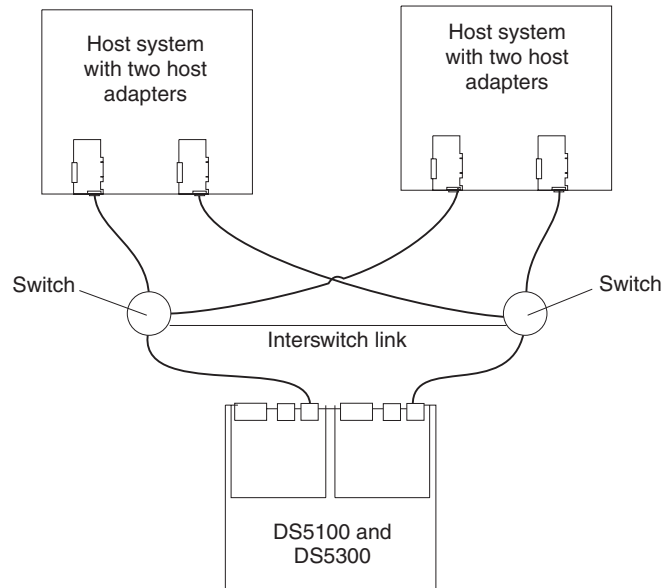

Figure 79. Example of a single SAN fabric configuration
- Single SAN fabric configuration, as shown in Figure 79 on page 117
Figure 79 on page 117 gives an example of two host systems with fibre channel switches connected by an interswitch link, forming a single SAN fabric configuration.